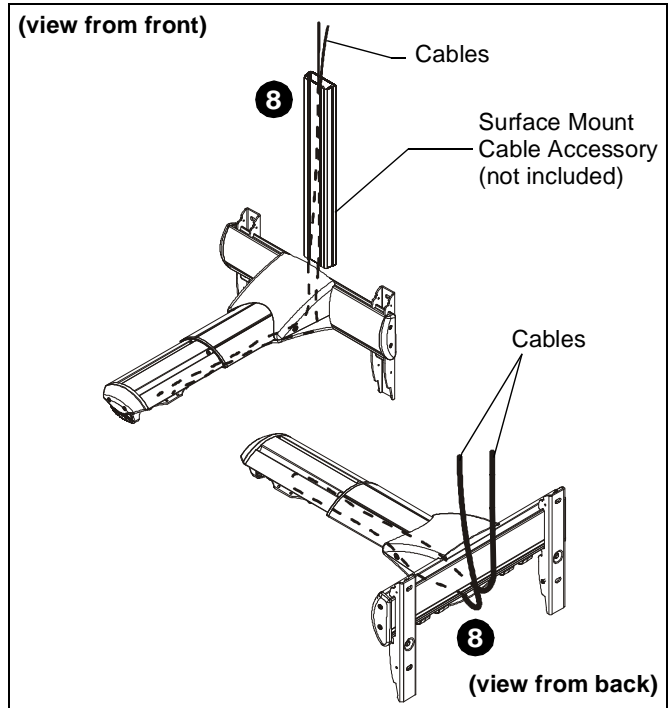

Figure 30
8. Thread cables down through a surface mount cable accessory (not included), then behind and into the wall bracket. (See Figure 30) **Proceed to Step 9**